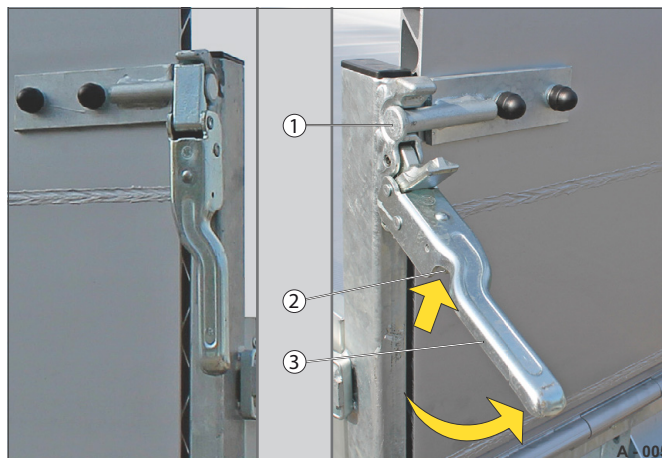

Fig. 9 Lug lock (ramp wall)
- Engage the locking latch (Fig. 9 /2).
- Pull the locking lever (Fig. 9 /3).
- The lug (Fig. 9 /1) is released.